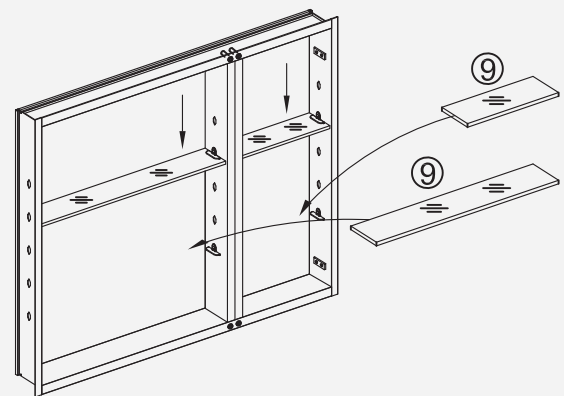

Fig 17
2. Place the glass shelf ⑨ on top of the clear shelf clips, making sure the shelf is against the back of the cabinet. Press lightly to adhere the shelf clip sticker (Fig 17).